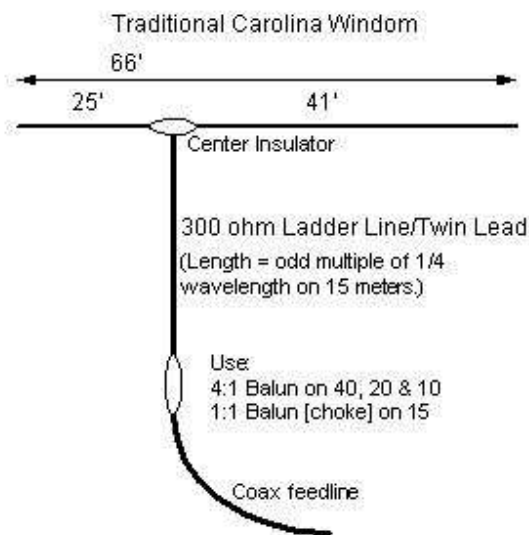

FIGURE 3a
The Traditional Carolina Windom: Figure 3a is the true representation of the Traditional Carolina Windom antenna. The main characteristics are: (1) It is 66 feet in length and designed to cover the 40, 20, 15, and 10 meter bands without the need for a tuner; (2) It will also work quite well on 17 and 30 meters with a tuner; (3) it requires a 4:1 Balun at the transmitter end on all-bands except 15-meters and a 1:1 Balun/choke when working 15-meters. This antenna works very well and achieves excellent signal reports when up 24' or higher and when trimmed and tuned to frequency. You simply need to cut the antenna (always keeping the 37.8/62.2% ratio to the feed point) to frequency using the MFJ-259B or similar test equipment.
The feed line from the radiator is 300-ohm twin lead or 300-ohm ladder-line (which is lighter and can be purchased at many hamfests). The twin lead must be cut to frequency for 15-meters. Its length must be an odd-multiple of a 1/4 wave on 15-meters. To make that simpler, 1/4 wave (in feet) at 21.060MHz is approximately 11 feet therefore the 3rd multiple is 33 feet and the 5th multiple is 55 feet and so on. I chose 55 feet since that was close to reaching my shack from where the antenna was hanging. Figure 3a shows a pictorial of the *Traditional Carolina Windom*. The 300-ohm twin lead actually is the primary radiator on 15-meters. As such, a choke or 1:1 Balun is used between the 300-ohm twin lead and the 50-ohm coax to the transmitter. A 4:1 Balun is required for the other bands in order to match the higher impedance of the antenna on 40, 20, and 10 meters.